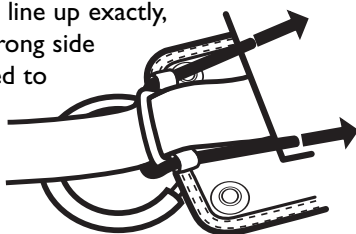

Figure 11
4. The two ends of the weight release cord must be threaded through the two small webbing loops located on the front edge of the weight carrier. See Figure 11.